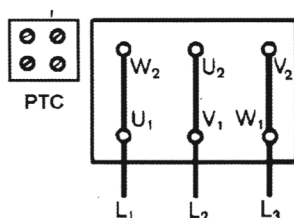

Fig. 8a
- The connection diagram for the electrical connections can be found in the terminal box (see also fig. 8a, b, c).